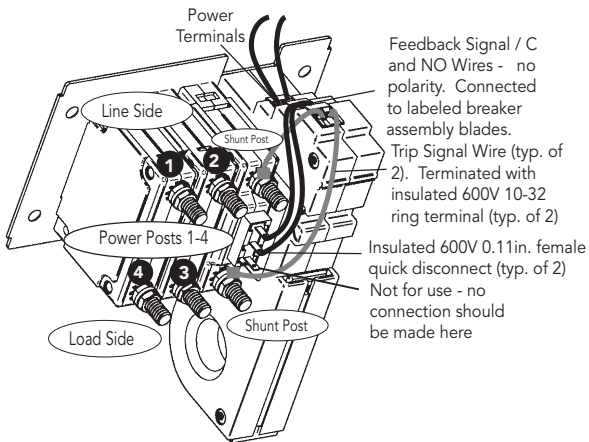

Figure 6. Pre-Wired GFPD-150V / Breaker Assembly
The GFPD-150V and breakers are assembled at the factory. Breaker shunt, (C) and (NO) leads are pre-wired to the GFPD-150V terminals - See Figure 6. The GFPD-150V external voltage source connections are described in the next section - Completing Wiring.
#### 3.2.2 Completing Wiring - See Figures 6 and 7
**Step 2.** Crimp the supplied ring terminals on the ends of the (+) and (-) solar<->breaker conductors, and connect solar array (+) wire to post (4) (load side), and solar array (-) wire to post (2) (line side) using the supplied hardware (see Figure 6).
**Step 3.** Crimp the supplied ring terminals on the breaker side ends of the (+) and (-) breaker<->controller conductors. Connect breaker side (+) wire to post (1) (line side), and breaker side (-) wire to post (3) (load side) using the supplied hardware (see Figure 6).